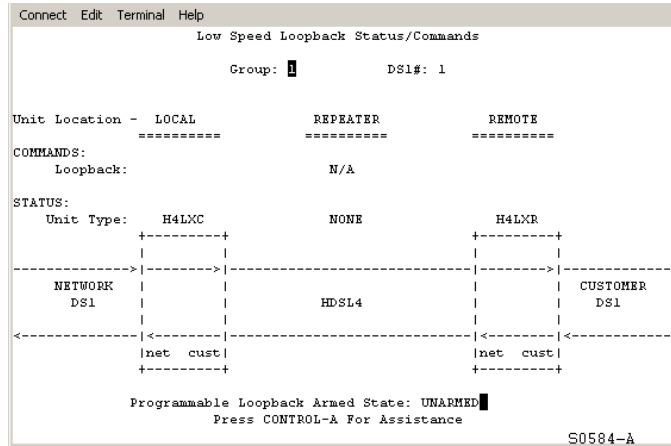

Figure 25. Low Speed Loopback Status/Commands Screen
- Select **4. Loopback Status/Commands**, then **1. High/Low Speed Loopback Status/Commands**. The Low Speed Loopback Status/Commands screen displays (see Figure 25 on page 36).
- Press **Y** to activate the loopback command or press **N** to cancel the command. Pressing **Y** causes the screen to disappear momentarily. The currently active loopback then displays (see Figure 25).